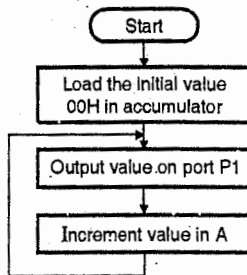

**Fig. P. 3.1.4 : Sawtooth waveform**
**Soln. :** The interfacing diagram is same as shown in Fig. P. 3.1.1. A sawtooth (ramp) waveform is shown in Fig. P. 3.1.4. It has an amplitude that is continuously increasing to maximum value.